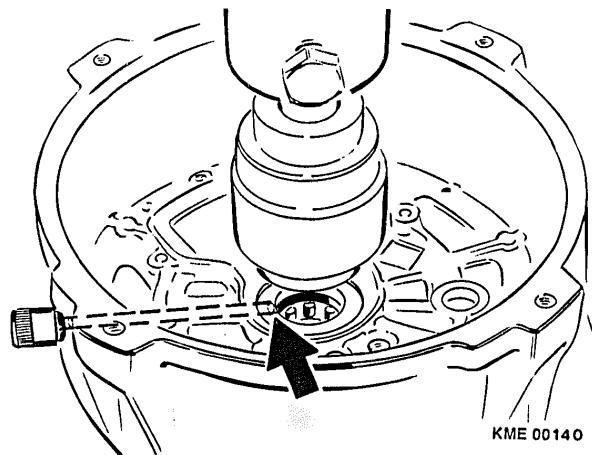

Figure 29 Installation of Bearing and Seal
3. Place tool KDLJ 6011 (Bosch Number 0 986 618 125) into bearing and press bearing into collector end shield. (Figure 29)
6. Place seal onto tool KDLJ 6011 and press the seal into the collector end shield. (Figure 29)